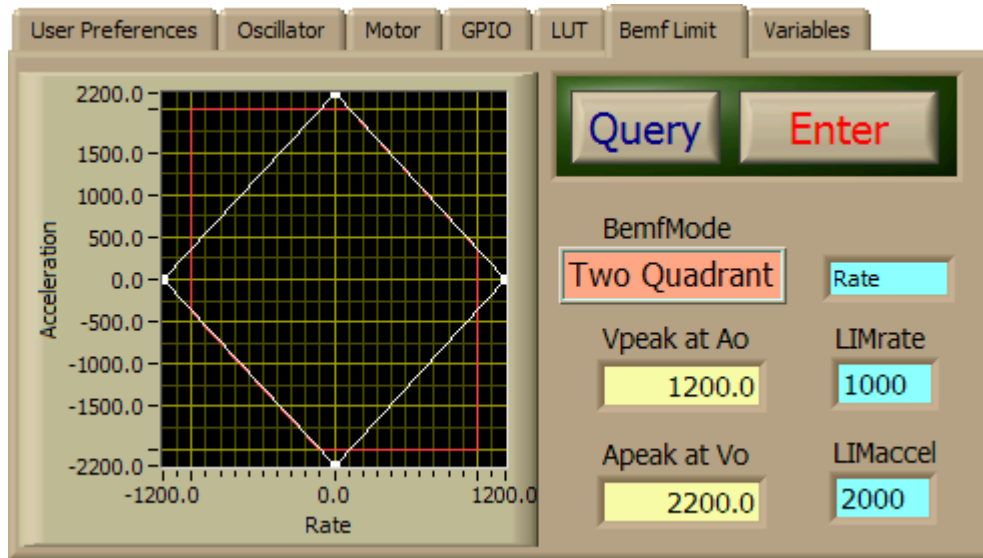

Figure 4-41 BEMF Configuration Sub-Panel, Two Quadrant BEMF Enabled
- . In this mode the BEMF Limit algorithm will reduce the axis acceleration limit during acceleration (quadrants 1 and 3), and will not affect the acceleration limit during braking (quadrants 2 and 4). See Figure 4-41.